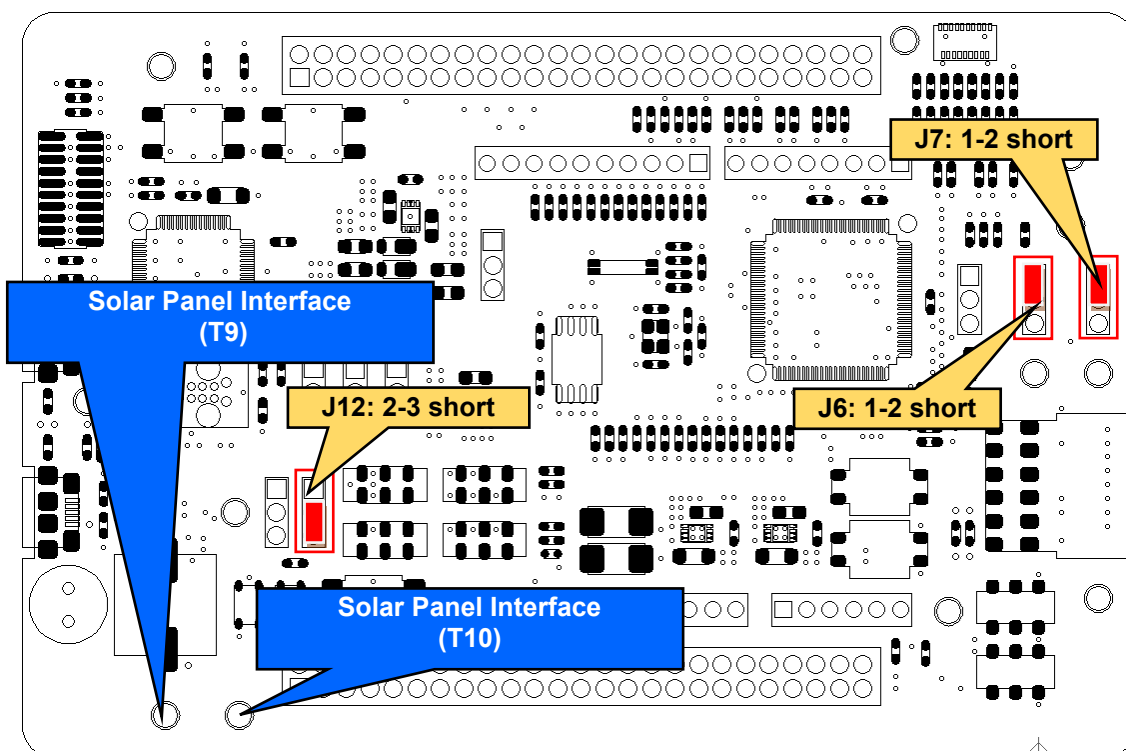

Figure 5-8: Component Layout and Settings (EHC Operation)
2. Follow the setting shown in **Figure 5-8** and **Table 5-8**.